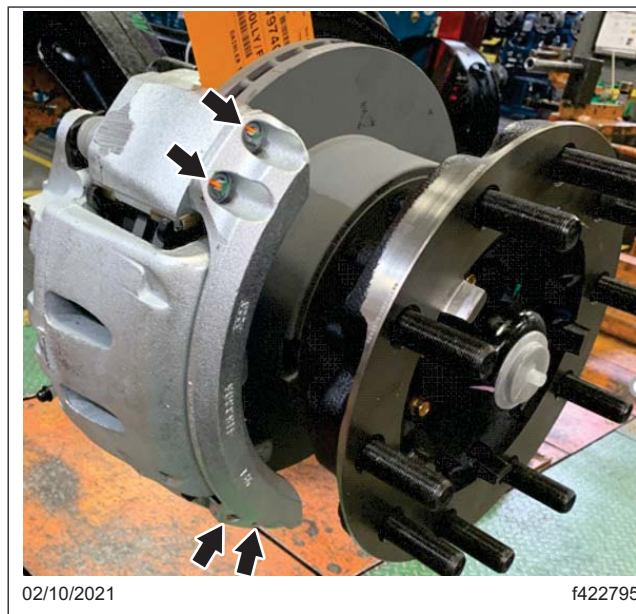

Fig. 4, Caliper Stiffening Bar Mounting Bolts
6. On the caliper of which one or more caliper stiffening bar mounting bolts turned, remove and discard the four caliper stiffening bar mounting bolts, then remove and retain the stiffening bar. See Fig. 4.
7. Set a torque wrench to 38 lbf-ft (52 N·m) and tighten the caliper stiffening bar mounting bolts on each side of the vehicle. See Fig. 4.
8. On the caliper of which one or more caliper stiffening bar mounting bolts turned, remove and discard the four caliper stiffening bar mounting bolts, then remove and retain the stiffening bar. See Fig. 4.